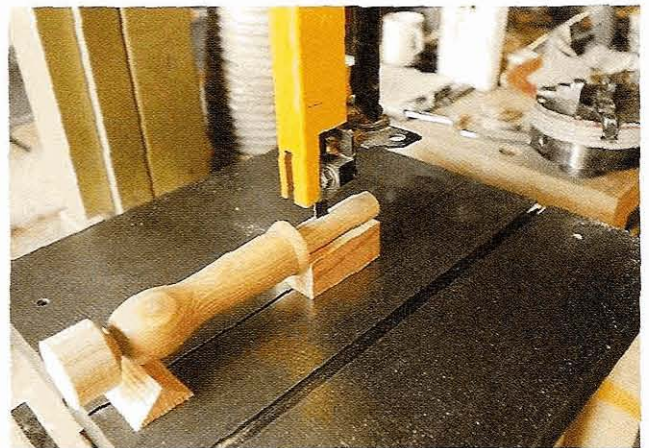

Fig 1.25 Sawing the kerf for the wedge, safely
- ③ Next, form the saw cut to take the wedge. Make a support so that the spigot of the handle can be offered to the bandsaw safely and accurately (Fig 1.25). Saw down the centre about two thirds of the way. A handsaw will also do.